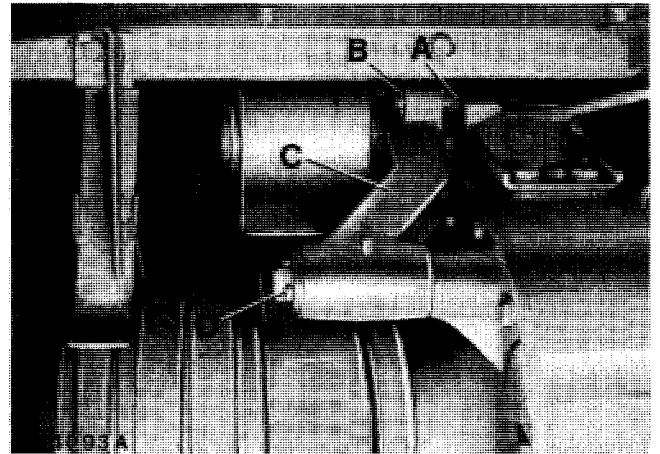

Fig. 27 – Removing Cutting Platform Throw-Out Device
Remove cotter pins (B) and (D) (fig. 27). Remove arm (C) to the left, at the same time disconnecting link (A) from arm.